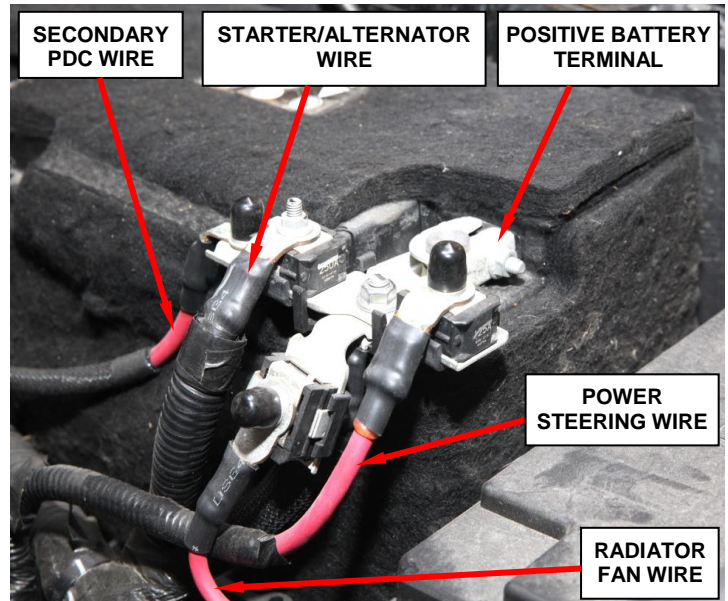

Figure 3 – Battery Positive Connections
3. Disconnect the battery feed wires at the positive battery post terminal studs (Figure 3).
4. Disconnect the positive battery terminal from the positive battery post (Figure 3).